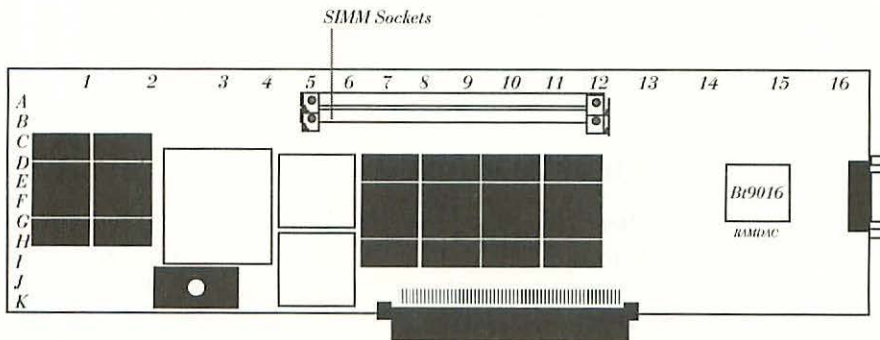

Figure 5-8 The PCB used on the Macintosh II Display Card 4.8 GC is marked like a grid map. The empty SIMM sockets are at grid locations A5-12 and B5-12.
6. As shown in Figure 5-8, the PCB used on the Macintosh II Display Card 8.24 GC is marked like a grid map. The numbers 1 to 16 are marked across the top of the PCB, and the letters A to K are marked along the left edge of the PCB. The empty SIMM sockets are at grid locations A5-12 and B5-12.